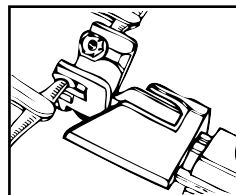

Figure 10
11. When both vessel ends have been suitably impaled, visually inspect to ensure that both rings are seated at the bottom of the U portion of the jaw and the pins are not bent (See Figures 5a & 5b). Bring the rings together (See Figures 10 & 11) by turning the Anastomotic Instrument knob clockwise.